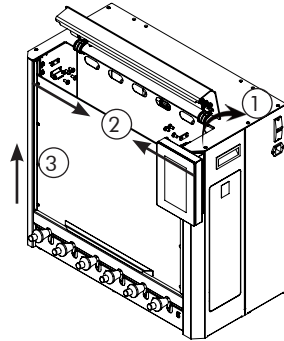

Fig. 17.1
- Unscrew the stopper and magnet mount from both sides as shown in the Fig. 17.1, and store them securely.